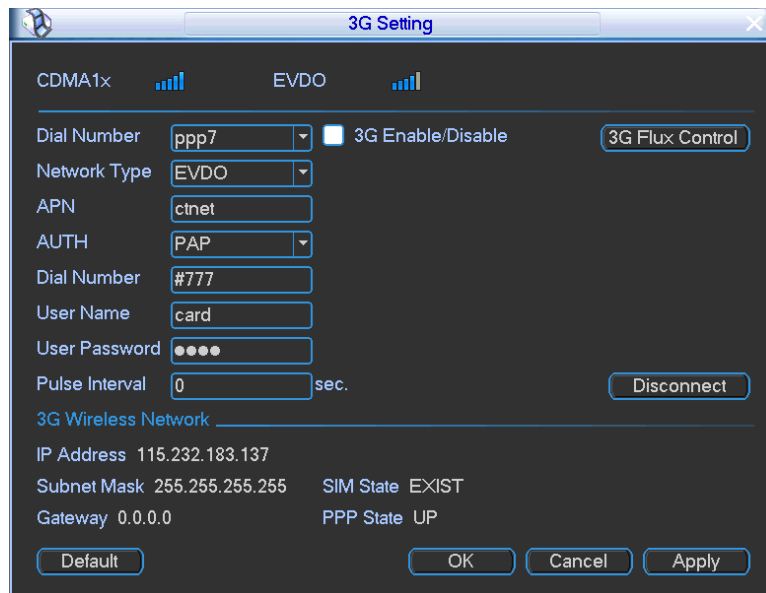
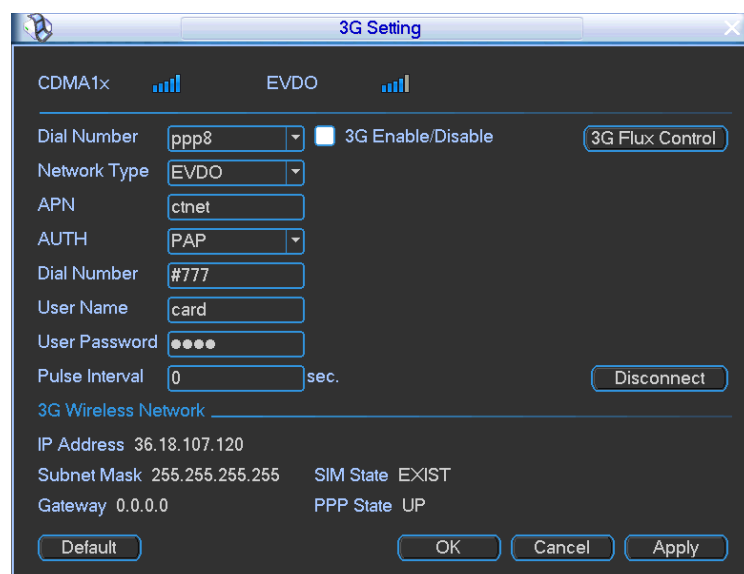

Figure 5-17
Figure 5-18
3G setup interface is shown as below. See Figure 5-17. It is to display current wireless network signal intensity such as EVDO, CDMA1x, WCDMA, WCDMA, EDGE and etc.
- Dial number: Please input 3G network dialup number you got from your ISP. This series product supports two 3G modules. You can select from the dropdown list to view its corresponding information. See Figure 5-17 and Figure 5-18.